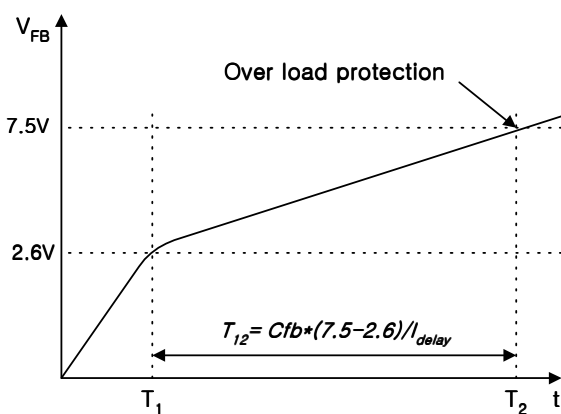

Figure 4. Over load protection
**3.2 Over Load Protection(OLP) :** Overload means that the load current exceeds a pre-set level due to an abnormal situation. In this situation, protection circuit should be activated in order to protect the SMPS. However, even when the SMPS is in the normal operation, the over load protection circuit can be activated during the load transition. In order to avoid this undesired operation, the over load protection circuit is designed to be activated after a specified period to determine whether it is a transient situation or an overload situation. Because of the pulse-by-pulse current limit capability, the maximum peak current through the SMPS is limited, and therefore the maximum input power is restricted with a given input voltage. If the output consumes beyond this maximum power, the output voltage (Vo) decreases below the set voltage. This reduces the current through the opto-coupler diode, which also reduces opto-coupler transistor current increasing Vfb. If Vfb exceeds 2.6V, D1 is blocked and the 5µA current source starts to charge Cfb slowly compared to when the 0.9mA current source charges Cfb. In this condition, Vfb continues increasing until it reaches 7.5V, and the switching operation is terminated at that time as shown in figure 4. The delay time for shutdown is the time required to charge Cfb from 2.6V to 7.5V with 5µA. When Cfb is 10nF (103), T12 is approximately 9.8ms and when Cfb is 0.1µF (104), T12 is approximately 98ms. These values are enough to prevent SMPS from being shut down during transient situations.